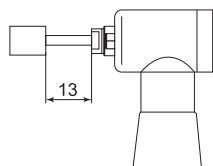

Fig. 1
- ① This Attachment is designed for hand use. Never install this Attachment or any hand tool on a machine such as a special purpose machine, NC lathe or mill.
- ② Do not touch the cutting tool while it is rotating. It is very dangerous.
- ③ Always wear safety glasses, dust mask and use a protective cover.
- ④ When installing a cutting tool, tighten the collet chuck correctly and recheck the collet chuck before use. Do not overtighten the collet chuck. This may cause damage to the spindle.
- ⑤ Do not exceed 13mm of overhang for mounted grindstones as shown in Fig. 1. If the overhang must exceed 13mm, reduce the motor speed in accordance with Table 1.
- ⑥ Do not use bent, broken, chipped, out of round or sub-standard cutting tools as they may cause shatter or explode. The cutting tool with cracked, bended may cause some injury to operator. When using a new cutting tool, rotate it in a low speed and increase speed gradually for safety.
- ⑦ Always operate cutting tools within the cutting tool manufacturer's recommended speed limits. Use of a cutting tool higher than the manufacturer's recommended speed limits could cause damage to the spindle and injury to the operator.
- ⑧ Do not apply excessive force. This may cause tool slippage, tool damage, injury to the operator, loss of concentricity and precision.